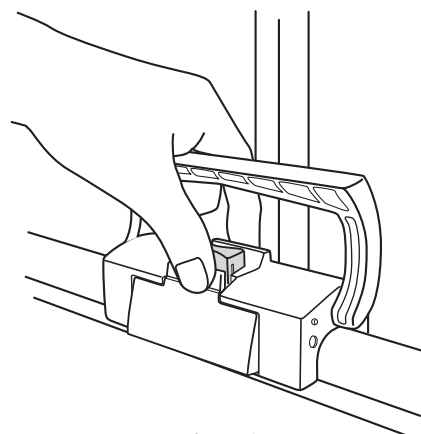

Figure 3
5. Raise the screen by grasping the lifting handle and simultaneously squeezing the release latch (Figure 3).